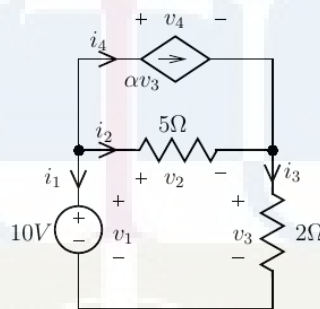

Figure 2: $\alpha = 0.5$
- (b). Explain how ‘damping’ can be used to improve convergence in nonlinear equation solutions using Newton-Raphson method. (4)
12. (a). For the circuit shown in Fig. 2, formulate the Sparse Tableau Analysis (STA) matrix from the fundamental equations. Take $\alpha=0.5$. (10)